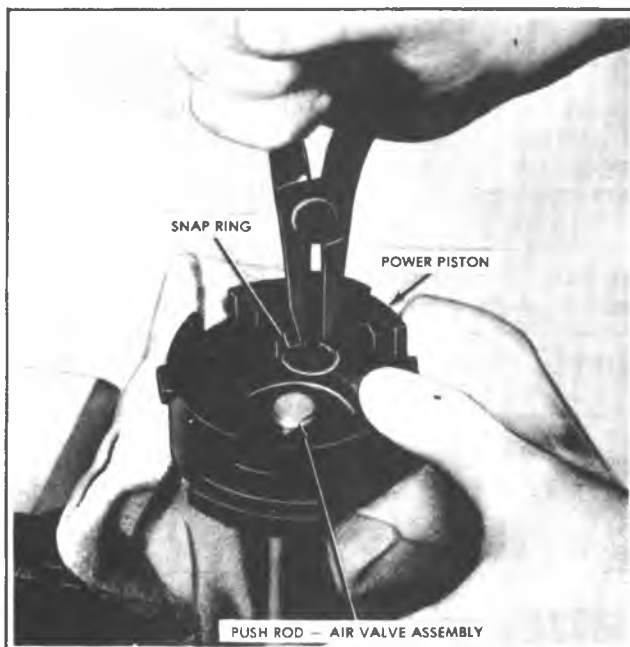

Fig. 5-9C—Removing Power Piston Snap Ring
10. Use Snap Ring Pliers J-4880 to remove snap ring on air valve (fig. 5-9C).